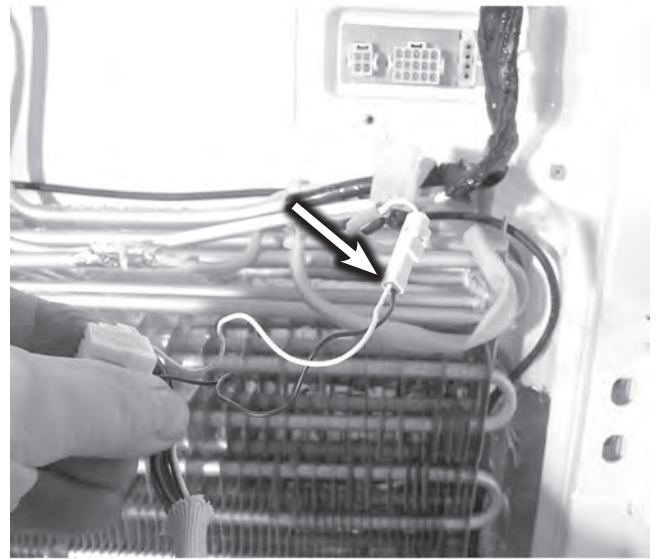

Figure 9
9. Disconnect harness, see figure 9.